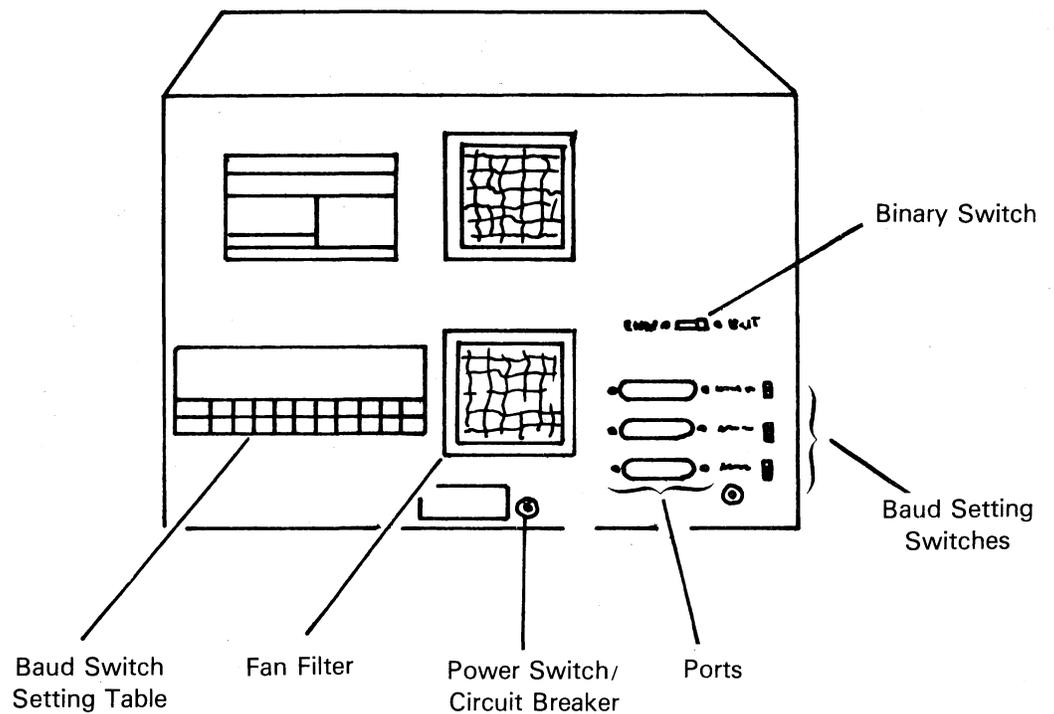

Fig. 3—Rear View of the Comm-Stor II LCU
**8.01** A terminal, a modem, and optionally a second modem can be connected to the Comm-Stor II LCU via industry standard connectors on the rear of the unit (Figure 3). These connectors, commonly called "ports", conform to the Electronic Industries Association (EIA) specification RS-232C.